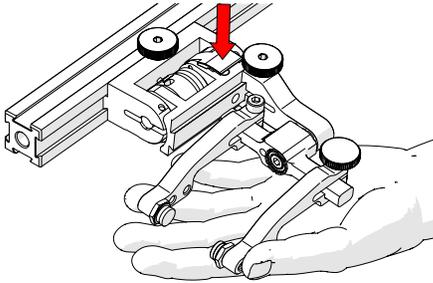

Fig. 110 - Lift slightly and press Latch
2. Lift the probe holder slightly and press the latch button (Fig. 110) to release the probe holder the full 45° degrees.